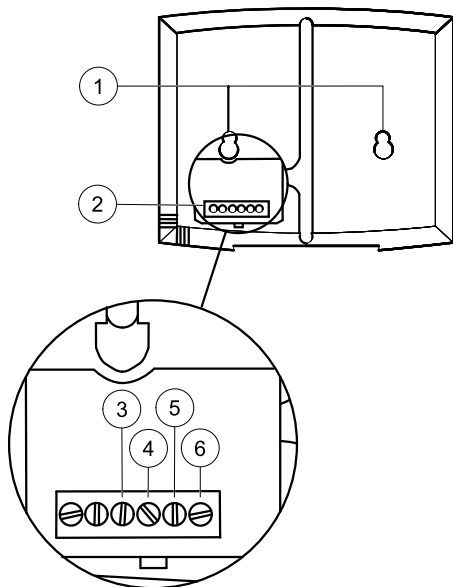

Fig. 15 Control panel wire connections
The control panel is delivered connected to the Corrigo control unit situated in the electrical connection box. Cable length is 10 m. In case the control panel needs to be detached from the signal cable it is possible to loosen the wires on the back of the control panel (figure 15).
If needed, drill two holes in the wall to hang the control panel (center to center: 60 mm) (pos.1, figure 15).